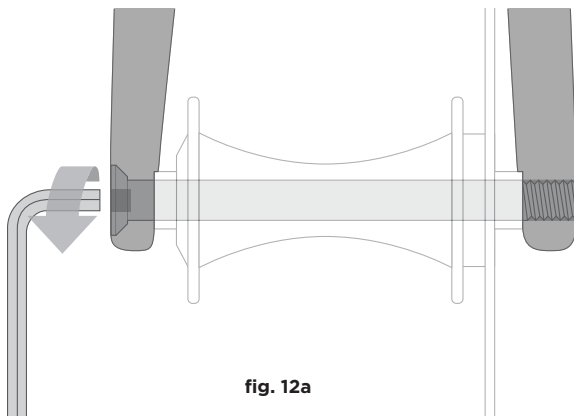
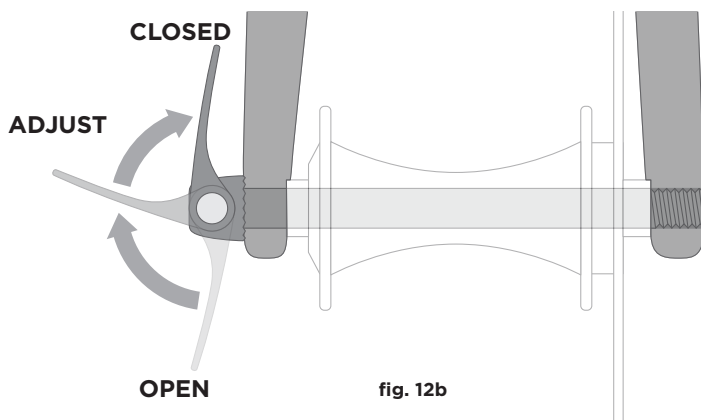

fig. 12a
fig. 12b
a. Adjusting the thru axle mechanism (fig. 12a & 12b)
The thru axle is inserted through the unthreaded hole in the frame or fork's dropout, through the wheel hub, and is threaded directly into the opposing dropout by tightening the thru axle. Common installation methods may use an Allen hex key (fig. 12a) or a cam lever (fig. 12b). Please refer to the manufacturer's instructions for specific information about your thru axle's operation, including correct torque specifications or lever adjustment information.
(4) If your bike has a thru-axle front wheel mounting system (figs. 12a & 12b), loosen and remove the thru axle according to the manufacturer's instructions, then remove the front wheel.
(c) With a thru axle system, tighten the thru axle (figs. 12a & 12b) according to the manufacturer's instructions.
(5) If your bike has a thru-axle rear wheel mounting system (figs. 12a & 12b), loosen and remove the thru axle according to the manufacturer's instructions.
(6) Push the rear wheel forward far enough to be able to remove the chain from the rear sprocket, then lift the rear wheel off the ground a few inches and remove it from the rear dropouts.